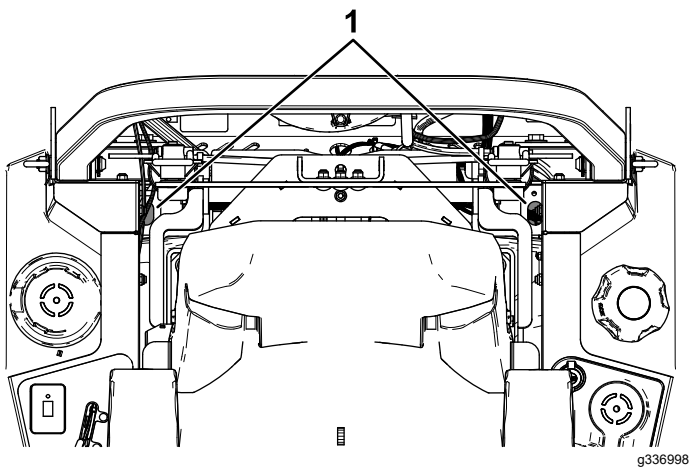

Figure 86
- **For ZT 4400 Hydros**, use an extension and 7/16-inch socket, access the vent plug from the top of the machine through the holes near the roll-bar mounts (Figure 86).